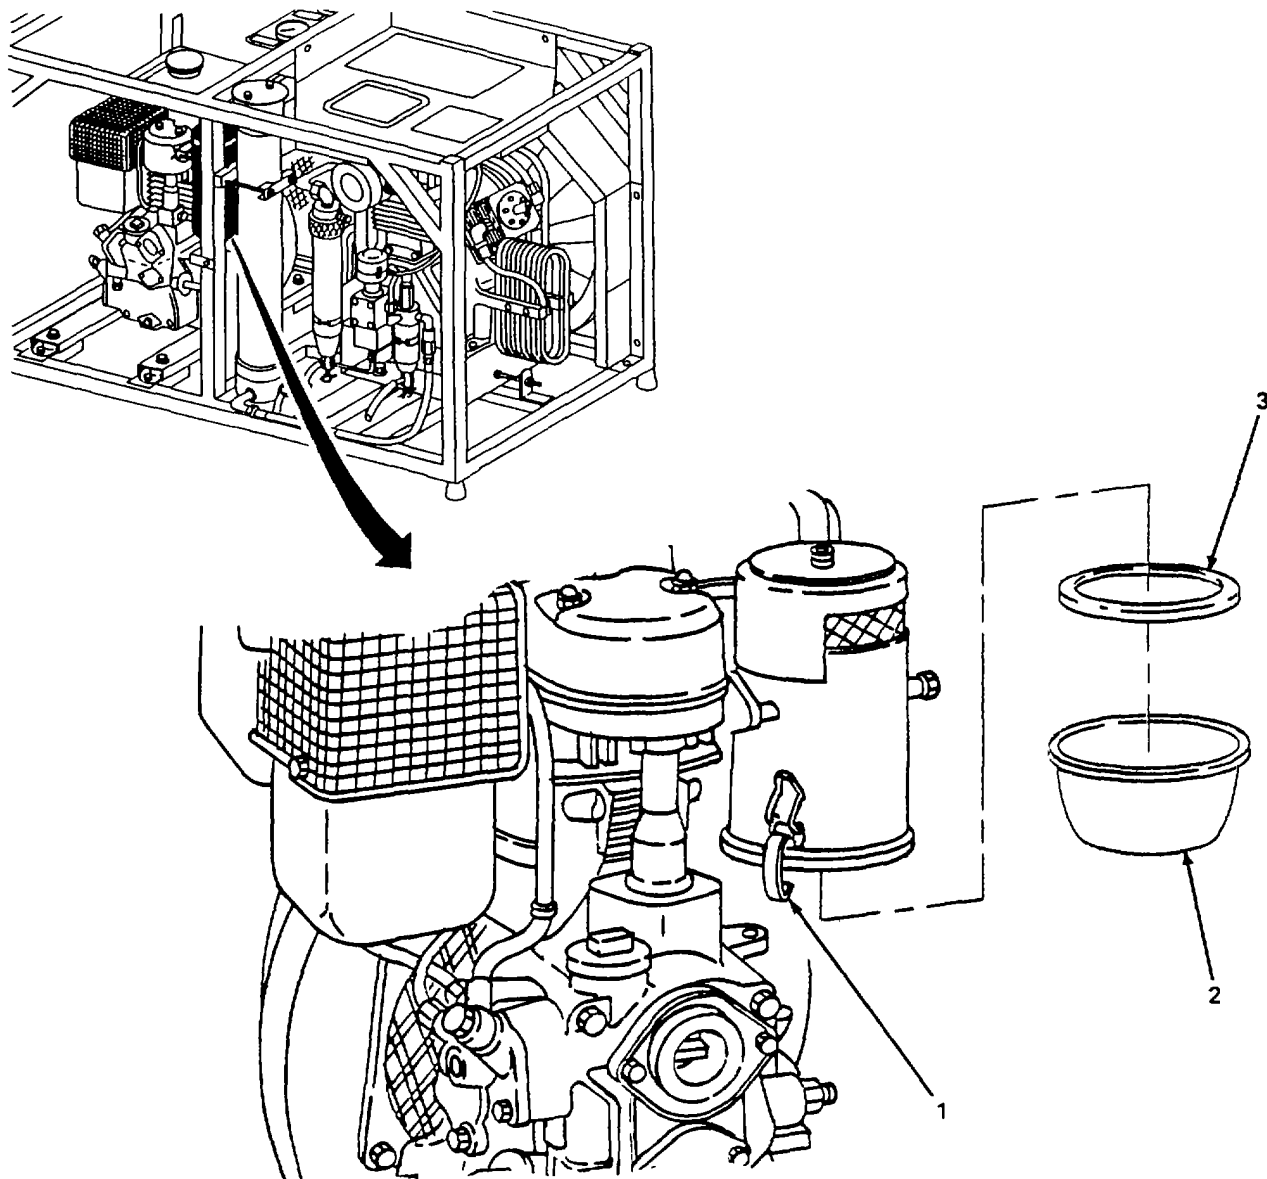

Figure 4-23. Air Cleaner, Service.
a. Service. (figure 4-23)
(1) Unsnap two clips (1) and remove cap (2) and gasket (3). Discard gasket (3).
(2) Pour out oil from cup (2) into suitable container.